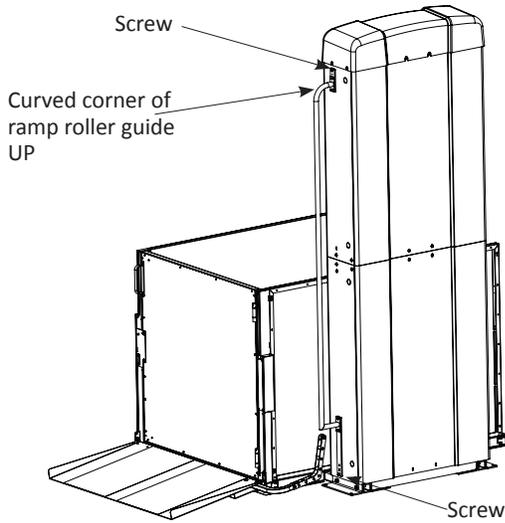

Figure 4-6
4. To install the ramp roller guide, remove the inside top and bottom side panel screws. *See Figure 4-6.*